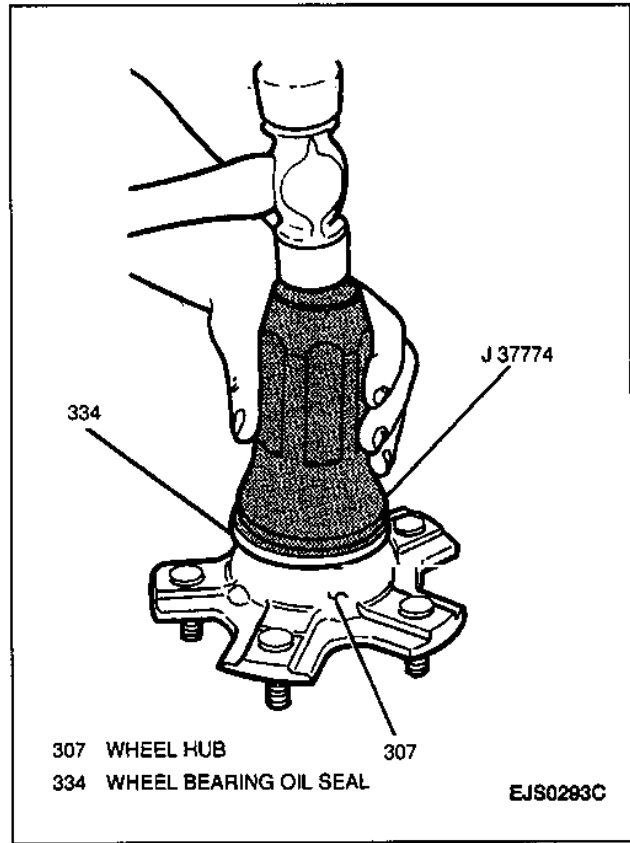

Figure 29—Installing Wheel Bearing Oil Seal
5. Wheel bearing oil seal to hub using a J 37774 (Figure 29).